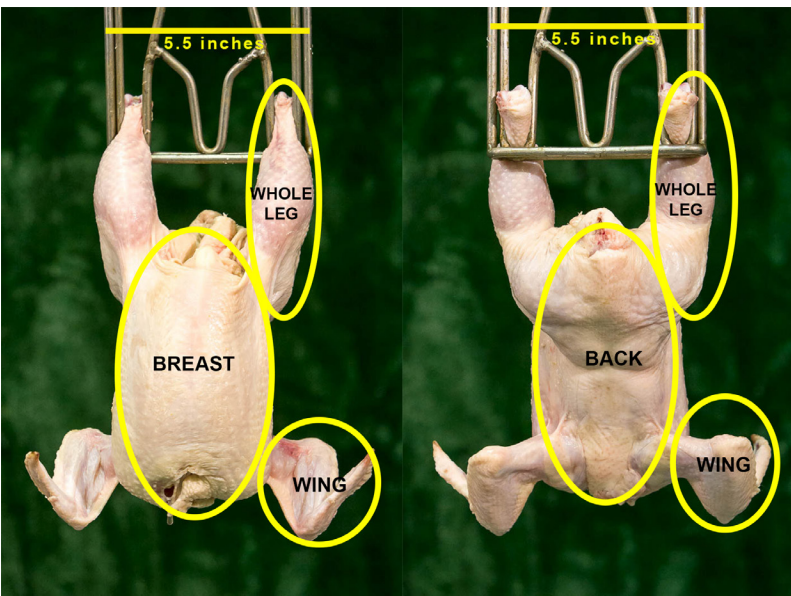
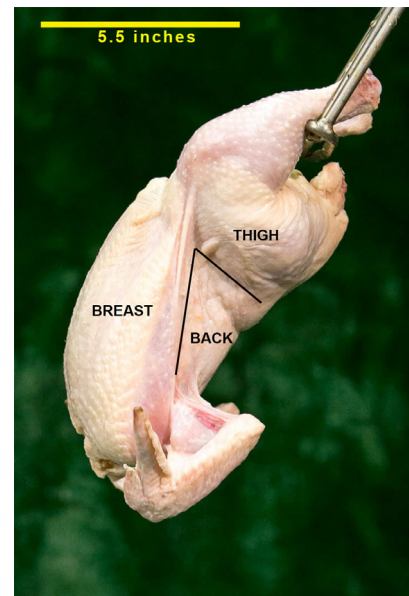

Figure 6. The six parts of a carcass are the two wings, two whole legs, back and breast.
Figure 7. Junction of the thigh, whole breast and back is where the pattern of feather follicles changes along the side of the carcass.
A carcass can be divided into six different parts – each wing (2), each leg (2), the entire breast and the entire back (see Figure 6). To determine the grade of a carcass, determine the grade for each of the six parts and the grade for the carcass will be the lowest grade observed in the individual parts. It is important to remember that for each leg, which is the drumstick and thigh together, all sides of the leg must be considered including the inner cavity area. The point at which the breast ends and the back starts is along the side of the carcass and identifiable by the change in feather follicle pattern (see Figure 7).